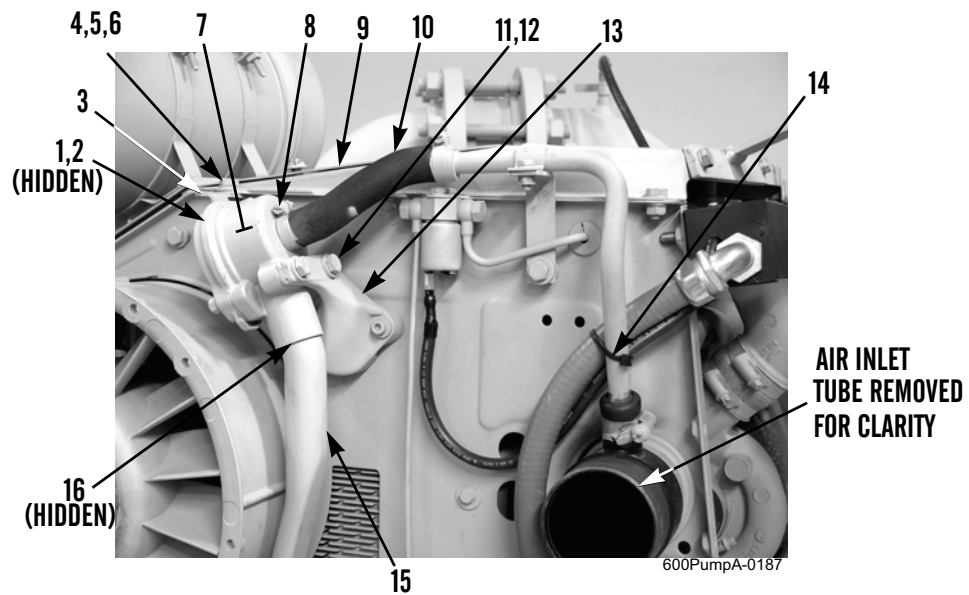

Figure 1. Crankcase Breather and Lines.
1. Loosen clamp (Figure 1, Item 8) and remove tube (Figure 1, Item 10) from breather valve (Figure 1, Item 7).
2. Remove nut (Figure 1, Item 4), two washers (Figure 1, Item 5), bolt (Figure 1, Item 6), and bracket (Figure 1, Item 3) from upper cooling air guide plate (Figure 1, Item 9).
3. Remove two capscrews (Figure 1, Item 11) and washers (Figure 1, Item 12) and release breather valve (Figure 1, Item 7) from bracket (Figure 1, Item 13).
4. Remove nut (Figure 1, Item 1), washer (Figure 1, Item 2), and bracket (Figure 1, Item 3) from breather valve (Figure 1, Item 7).
6. Remove breather valve (Figure 1, Item 7) from breather pipe (Figure 1, Item 15).
7. Remove two seals (Figures 1 and 2, Item 16) from breather pipe (Figures 1 and 2, Item 15). Discard seals.
8. Cut tiedown strap (Figure 1, Item 14) and discard.